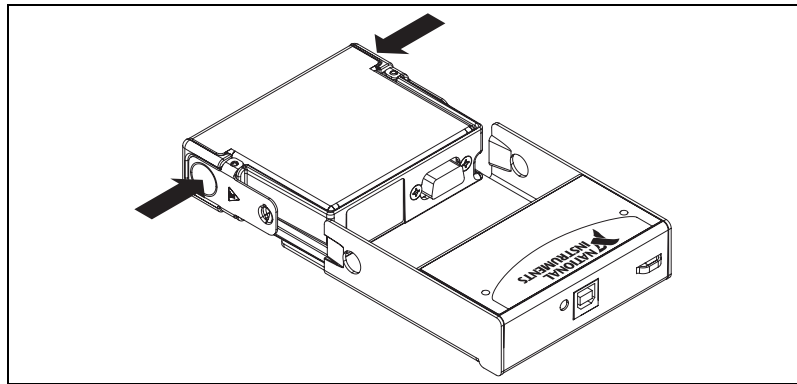

Figure 5. Module Installation
The NI 9264 module and NI USB-9162 carrier are packaged separately. Refer to Figure 5, while completing the following assembly steps:
3. Align the I/O module with the carrier, as shown in Figure 5.